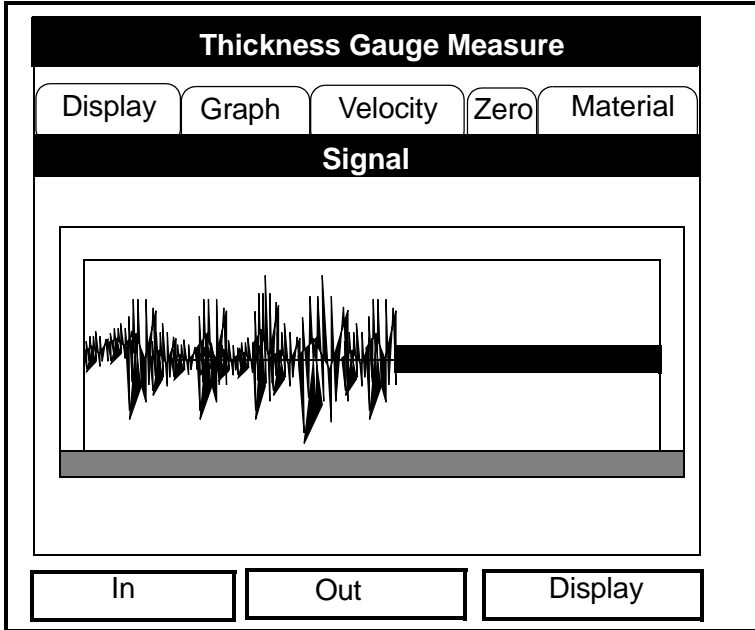

Figure 9-8: The Graph Window in Zoom Format
Press [F2] (Cancel) or [F3] (OK) to return to Operate Mode, or press the [▶] arrow key to move to another window in the option. However, if you wish to adjust the graph, press the [▼] key. The screen now appears similar to Figure 9-8 on the next page.